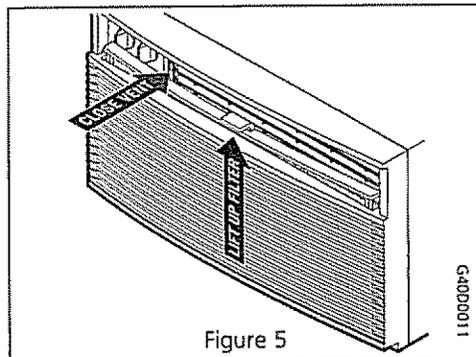

Figure 5
- Some models, push the vent control handle to the CLOSED position. Lift the filter straight up and out (Figure 5) **Note:** For compact models without the visible filter tab, see "Filter Removal, Some Compact Models" on previous page.